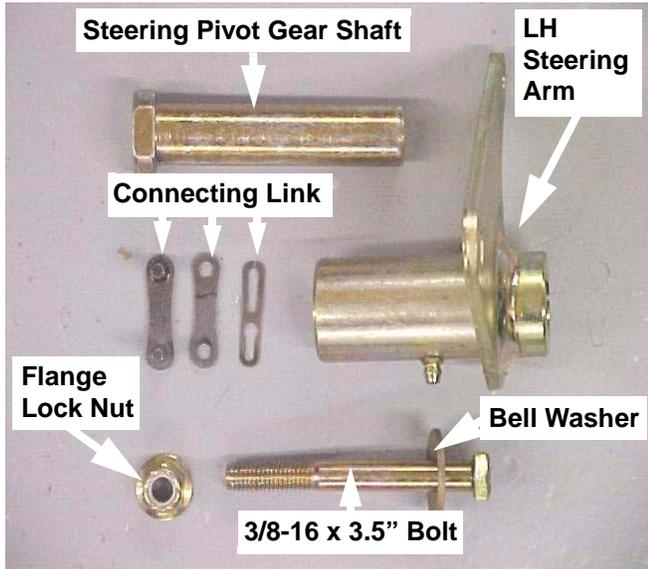

FIGURE 9
13. Discard the LH steering arm, steering pivot gear shaft, 3/8-16 x 3.5" bolt, 3/8-16 nylon lock flange nut, connecting link, cotter pin, and bell washer. See Figure 9. **NOTE:** Cotter pin not shown.
DISCARD ALL ITEMS SHOWN IN FIGURE 9